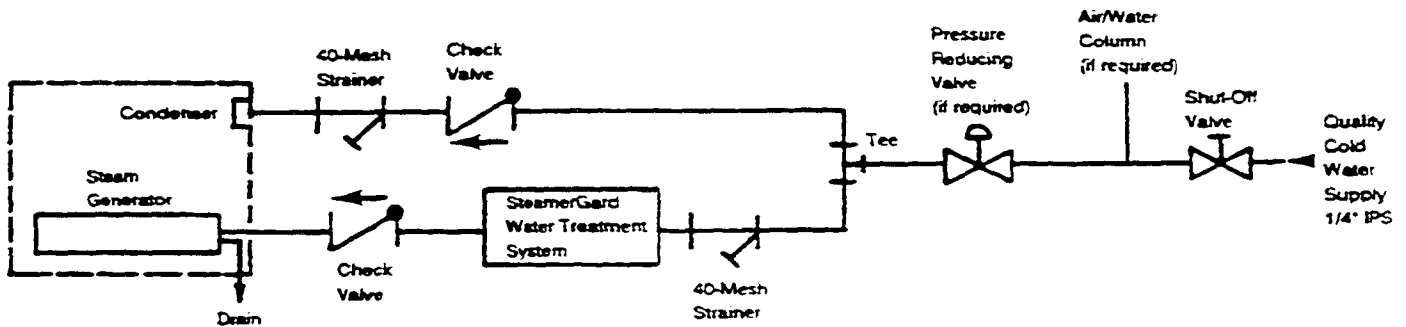

Figure 2-15. Double Water Connection with SteamerGard
1. Refer to Figure 2-15 and the SteamerGard installation manual.